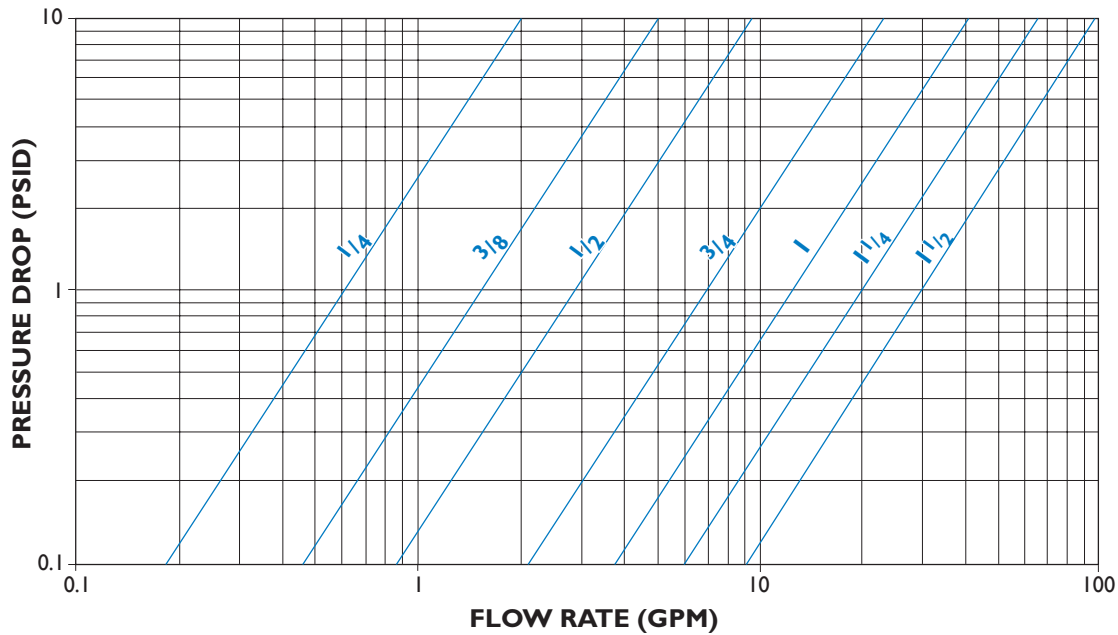

FIGURE 1
*Multiply values obtained from figure 1 thru 4 by the appropriate values shown below
- A) Using figure 1 the pressure drop is determined to be 1.0 psid with IFC's standard screen.
- 1) Using figures 1 or 2 determine the pressure drop (P1) through the strainer with water flow and standard screens.
- 4) Using Chart #2 multiply P3 by the appropriate Component Factor (CF) to get P4.
- 6) Multiply P4 by the appropriate Body Loss Factor (BF) in Chart #3 to get P6.